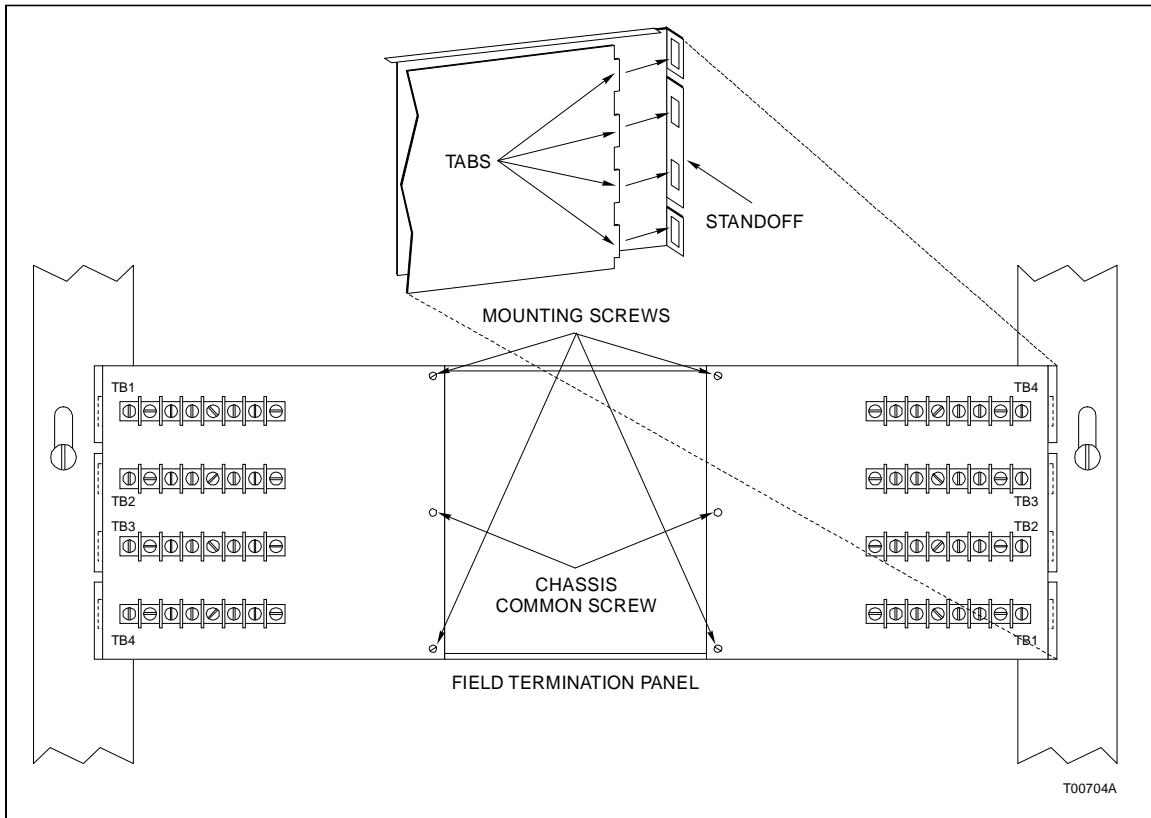

Figure 2-12. Mounting and Securing the Termination Unit on the Field Termination Panel
1. Insert the tabs of the circuit board into the proper slots of the termination panel standoff as shown in Figure 2-12 and slide the circuit board into position.
2. Secure the termination unit circuit board to the field termination panel with two number ten self-tapping screws (see Figure 2-12).